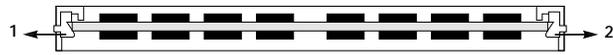

Figure 5-8 Releasing SIMM spring clips
4. **To release a SIMM strip on the video controller PCB,** push outward on one of the spring clips. Then while supporting the SIMM, push outward on the other spring clip. (See Figure 5-8).